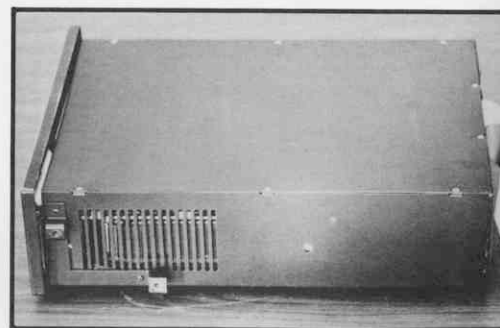

Figure 65 Inner Cover
4.45 The inner cover, if you have one, should now be visible. Remove eight (8) Phillips screws which fasten the interior cover of the unit (Figure 65).